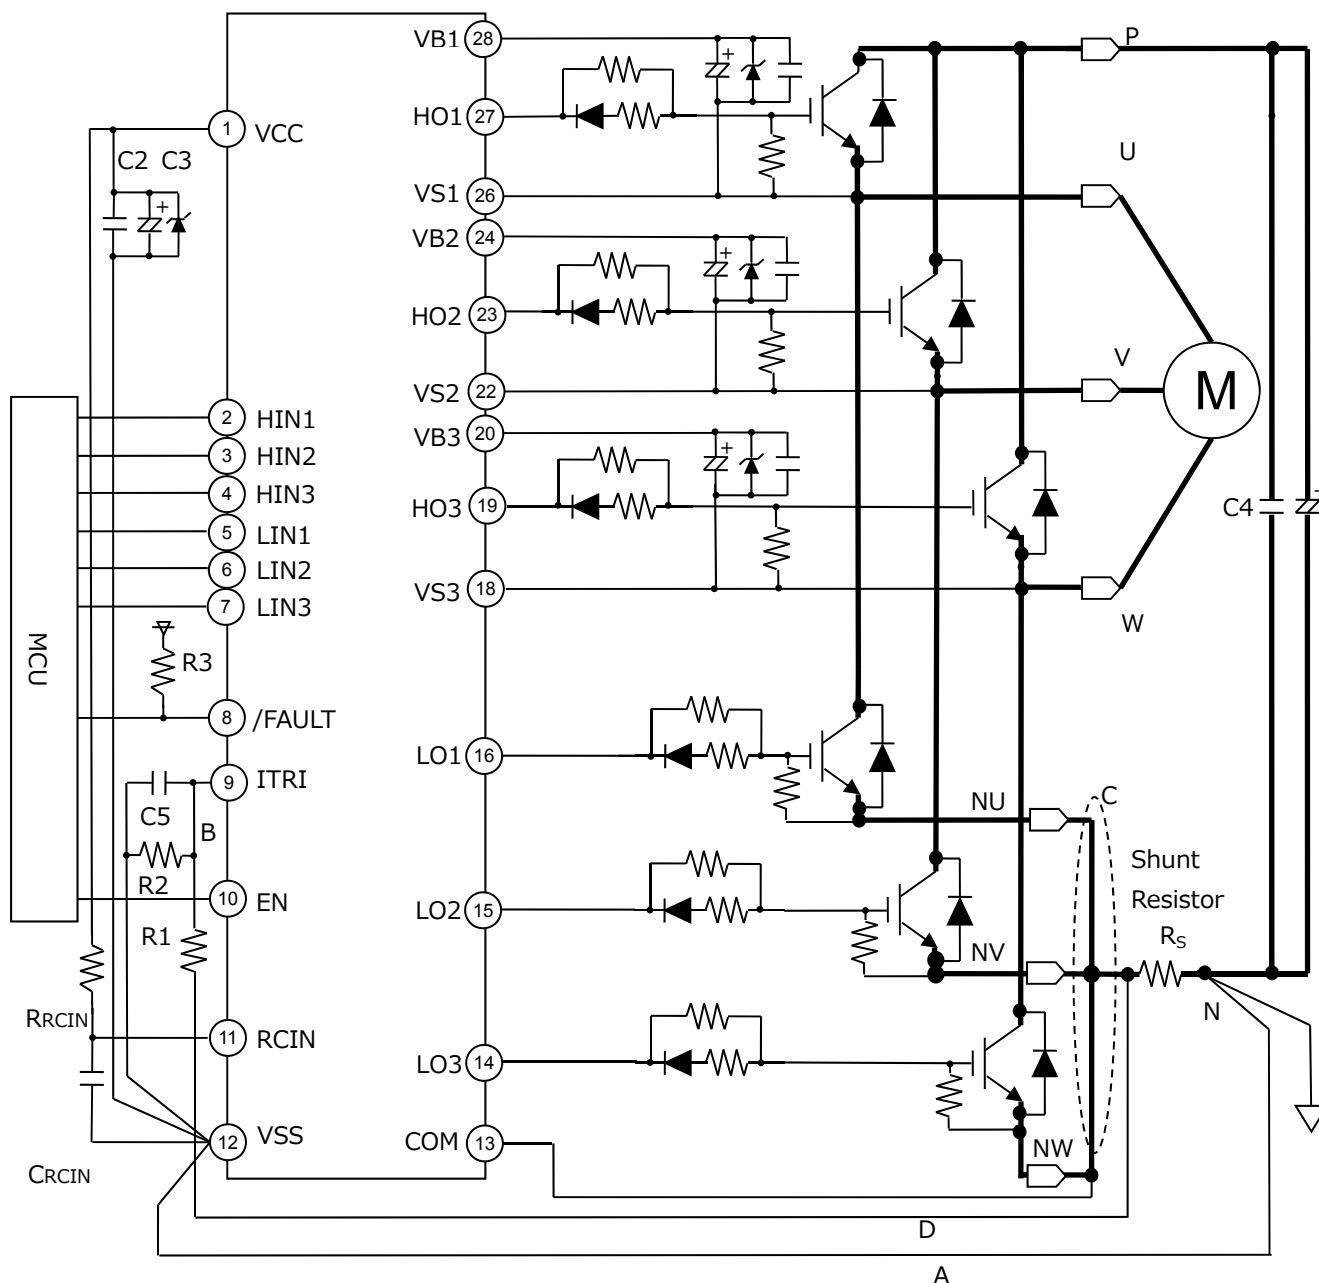

Figure 3.1.1 Example of application circuit
3.2 Selection method of application components (refer to Figure 3.1.1)